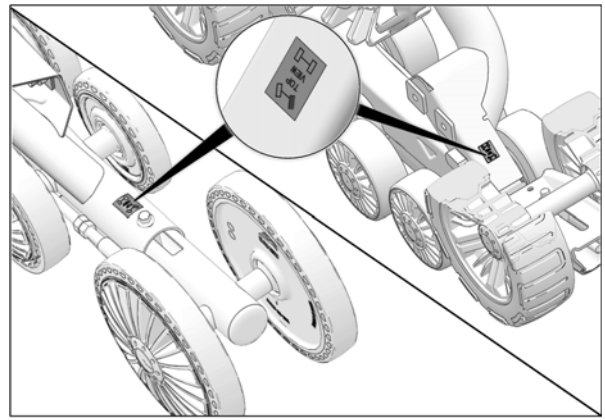

Fig. 2
- Set each Track System unit near the position indicated by the sticker affixed on the frame. See Fig. 2